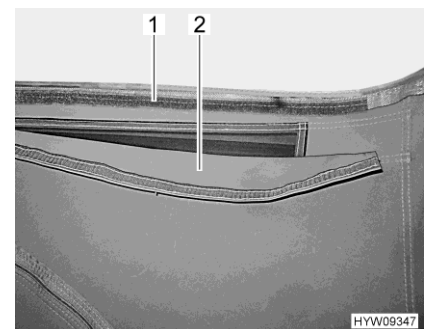

Fig. 61 Ventilation (open)
- Pull the fabric flap (Fig. 61,2) upwards and press down the Velcro strap (Fig. 61,1).